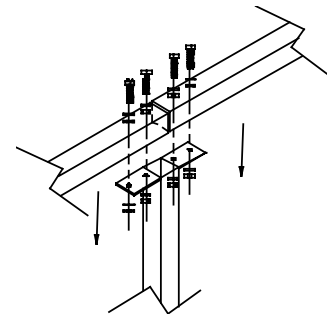

Figure 3:
- c. Cross beams that meet over a column to continue one side meet in the middle of the column and are each supported by flanges on the column. (See figure 3)